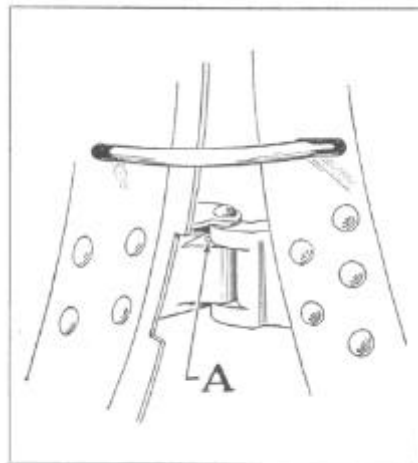

Figure 17
with light oil. The door hinge pins should be lubricated with light oil. An oil pocket (A), Figure 17, is provided in the top surface of the body half of the hinge, adjacent to the hinge pin and is accessible when the door is open.